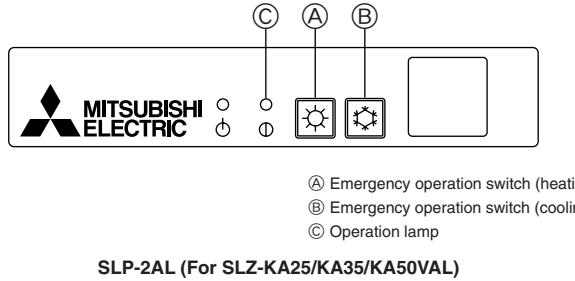

Fig. 10-1
10.3.1. For wireless remote controller (Fig. 10-1)